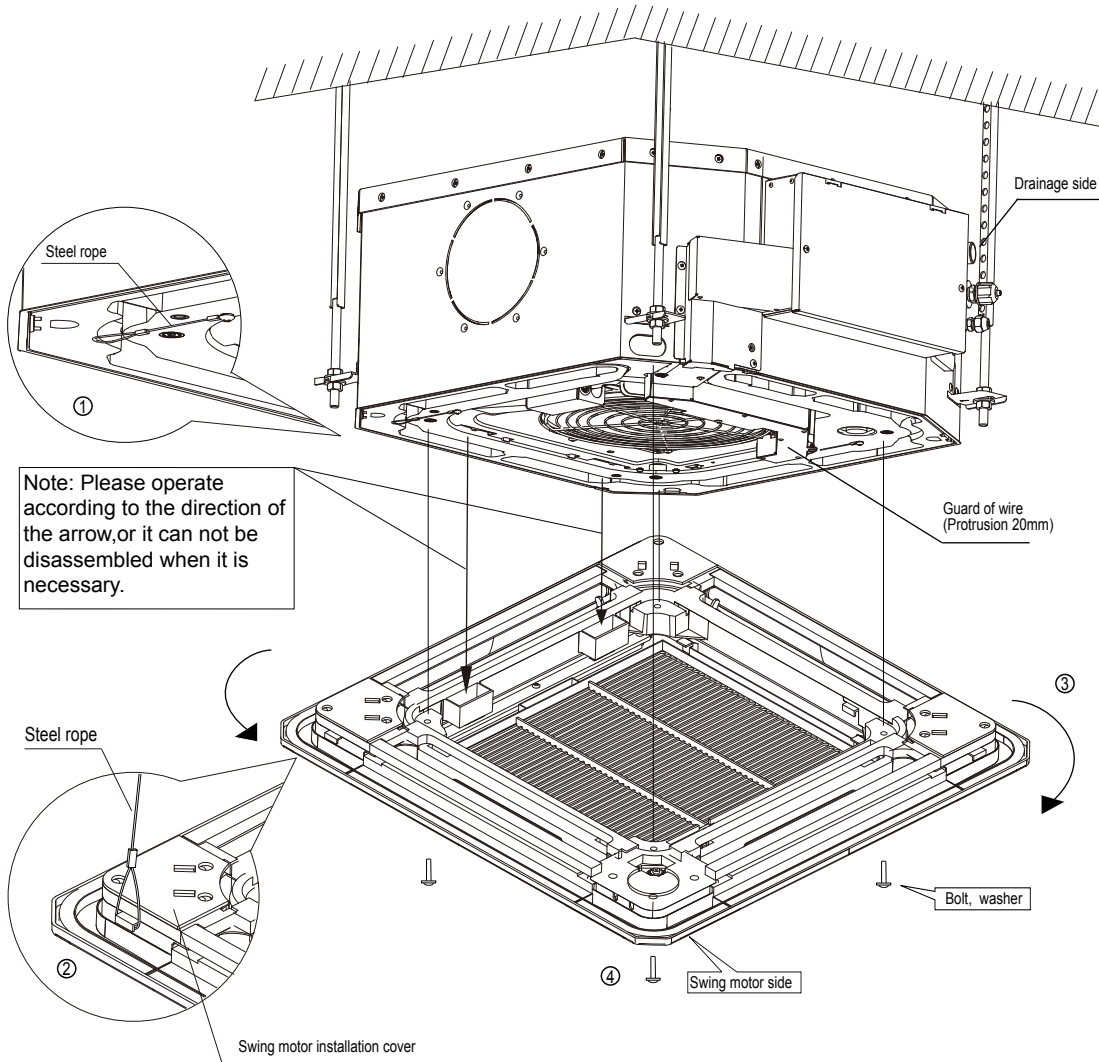

Fig.5-11
- Align the swing motor on the panel to the tubing joints of the body. (Refer to Fig. 5-11)
- Hang the two fixed ropes of the main body to the installation cover and the other cover of the swing motor: (Refer to Fig. 5-11 ① and ②)
- Install the panel on the main body with bolts (M5×20) and washers. (Refer to Fig. 5-11④)
- Adjust the panel in the direction of the arrow in Fig. 5-11③ slightly to fit the panel's center to the center of the ceiling's opening. Guarantee that the hooks of the four corners are fixed well.